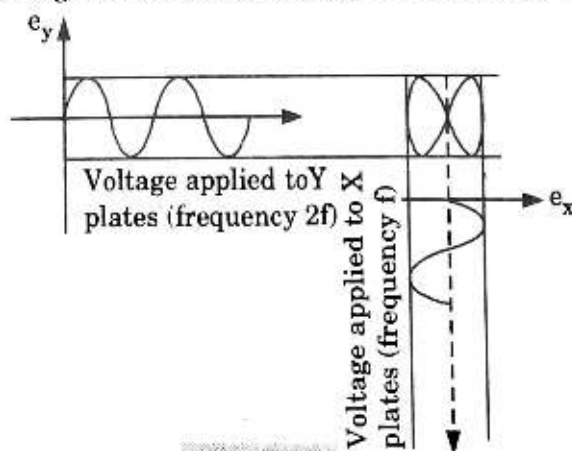

Fig. 4.3.2.
- As shown in Fig. 4.3.2 sine wave is applied to X and Y plates.